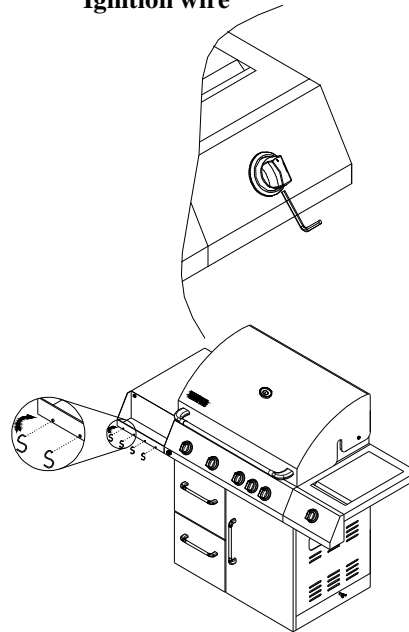

Figure 9
5. Secure knob to head of side valve with the provided Allen Wrench. (Fig.9)